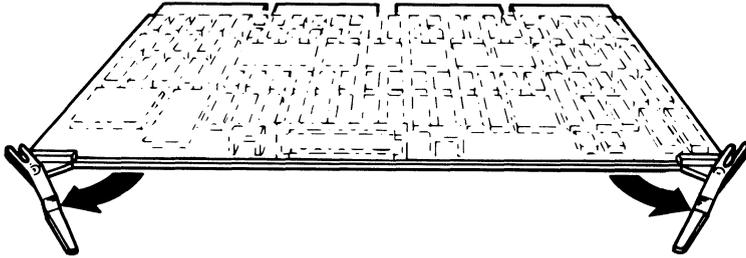

Figure 6-31 Quad-Height Module Ejector Levers
**Q22-Bus quad-height modules have levers at each end used to lock the module in place and to assist in releasing the module from the backplane. Figure 6-31 shows the operation of these ejector levers.**